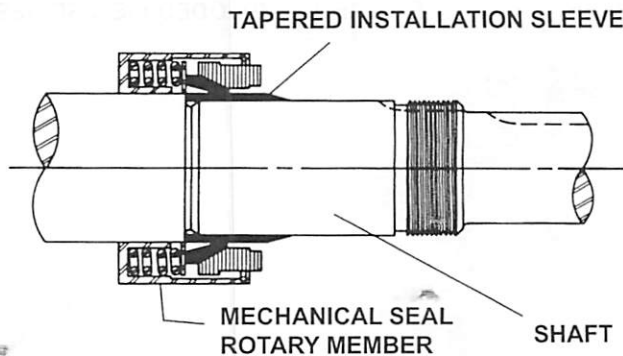

FIGURE 6
2. Place tapered installation sleeve on the shaft. Coat tapered sleeve and inside of the rotary member with a generous quantity of light oil. Grease is not recommended. Start rotary member on shaft and over tapered sleeve. **Refer to Figure 6.**